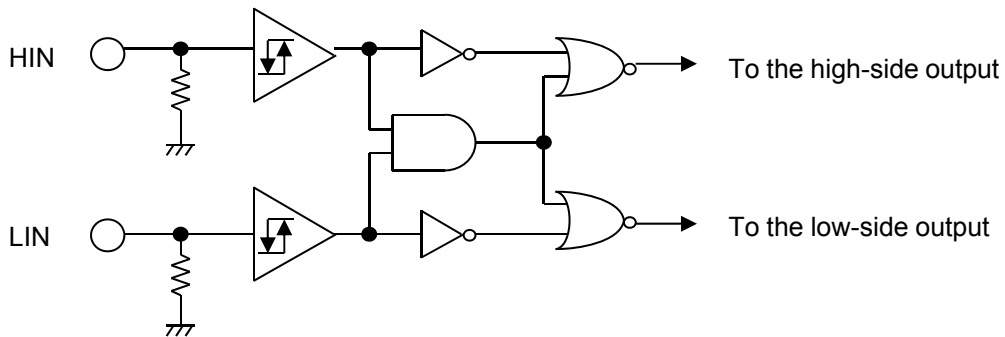

Fig.12 Interlock circuit (Output-Low type)
① Interlock for turning the high/low-side outputs to “low” in response to the input of simultaneous turn-on signals
When HIN = LIN = “high” (ON), the logic circuit shown in Fig.12 turns the high-side and low-side outputs to “low” (OFF) thus preventing arm short of power semiconductors (IGBT/MOSFET).